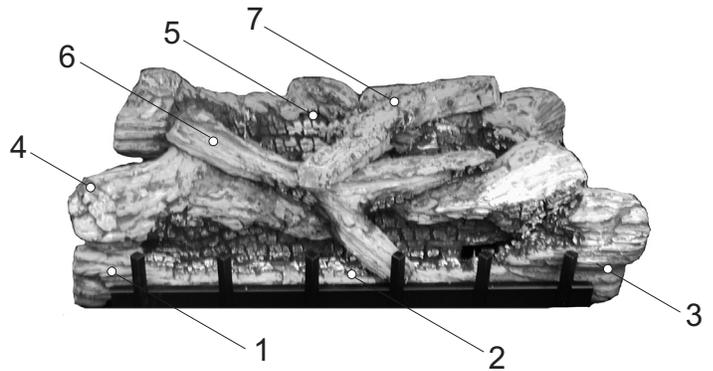
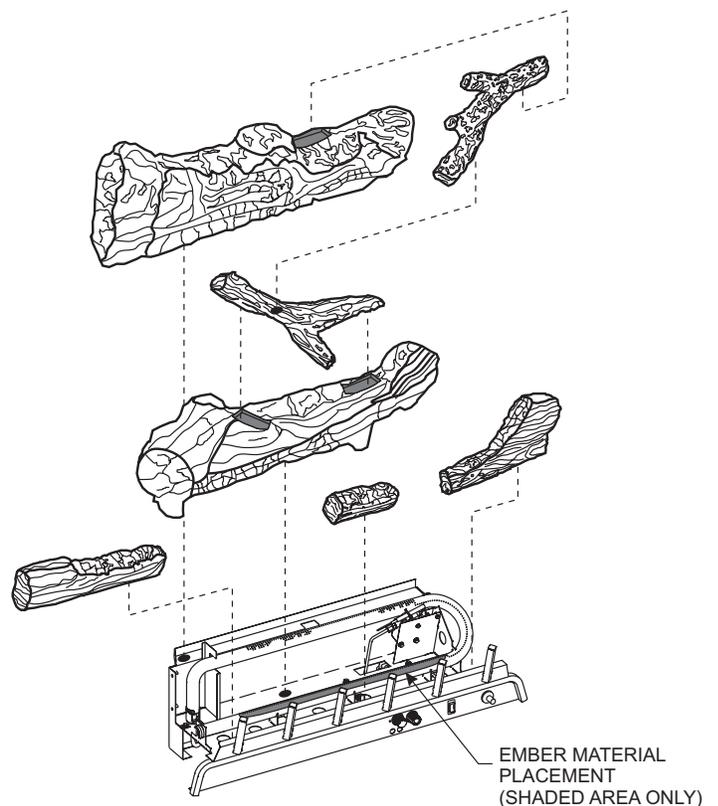

Figure 14
Figure 15
The positioning of logs is critical to safe and clean operation of this burner assembly. Sooting and other problems may result if the logs are not properly and firmly positioned on the burner assembly. Refer to **Figure 14** and **Figure 15** and corresponding **WARNING:** when completing following log placement steps.
Attention: Do not use Figure 14 or Figure 15 to order logs. Refer to Parts Lists and Parts Views to order logs and/or ember material.
6. After all logs are properly positioned, place small "dime" size pieces of Rockwool lightly across the front burner tube ports. Place the ember material (Rockwool pieces) side by side. Do not stack more than one layer of embers across the burner ports. No more than (1) one packet of ember material (part number 15999) evenly placed on the burner, is recommended on VFDR30 models. See **Figure 15**.